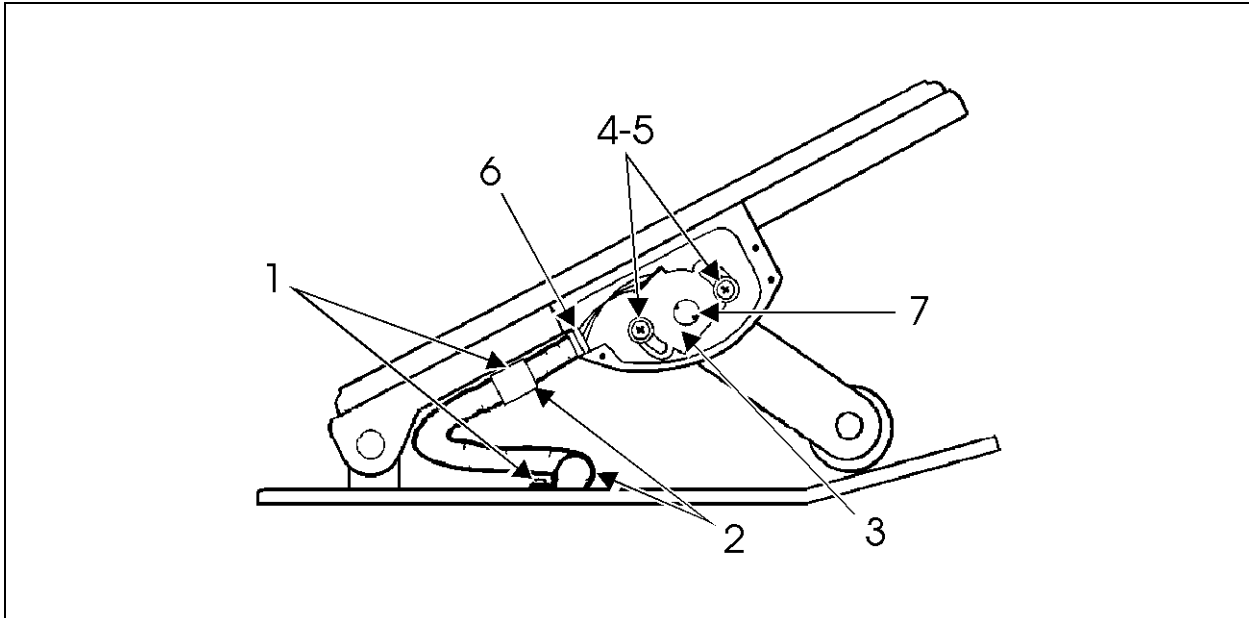

FIGURE 11: ELECTRONIC FOOT PEDAL ASSEMBLY
2. Discard screws (1, Fig. 11) and cable clamps (2, Fig. 11) securing wire.
3. Loosen the three (3, Fig. 11) screws and remove potentiometer cover. Retain for reassembly.
4. Discard potentiometer (3, Fig. 11), screws (4, Fig. 11), washers (5, Fig. 11) and grommet (6, Fig. 11).
5. Position new potentiometer (3, Fig. 11) with flat side towards you. Press potentiometer onto the potentiometer shaft (7, Fig. 11), matching cutouts in shaft to drive tangs of potentiometer. Apply hand pressure until potentiometer has bottomed out in housing. Install new screws and washers (4 & 5, Fig. 11) and tighten just enough to lightly secure potentiometer. Rotate potentiometer counterclockwise as far as possible. Tighten screws to 10-20 lbf•in (1.1-2.2 N•m).
7. Install new cable clamps and screws (1 & 2, Fig. 11), making sure new potentiometer's wire harness is routed in the same manner as the original harness. Tighten screws to 34-45 lbf•in (3.7-5 N•m).